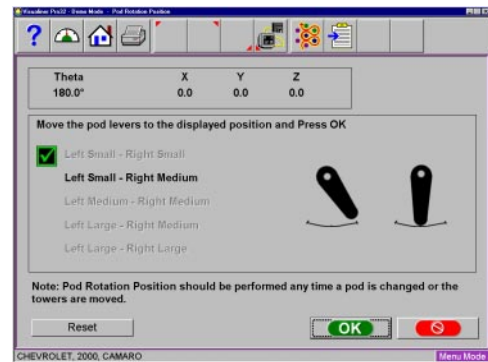

Figure 3-119
3. After clicking on “Ok” as indicated in step 2, the camera rotation levers change positions. Move the camera levers to the position shown and click on **<OK>**. (Figure 3-119)